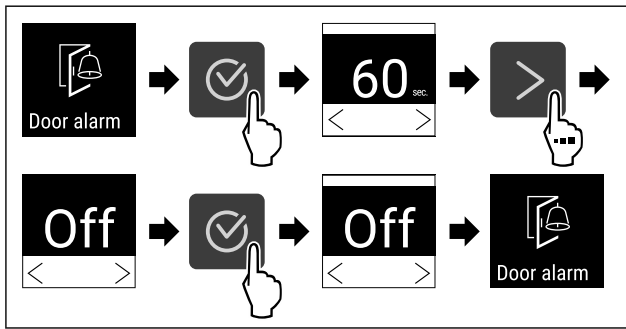

Fig. 115
- ▶ Complete steps (see Fig. 115) .